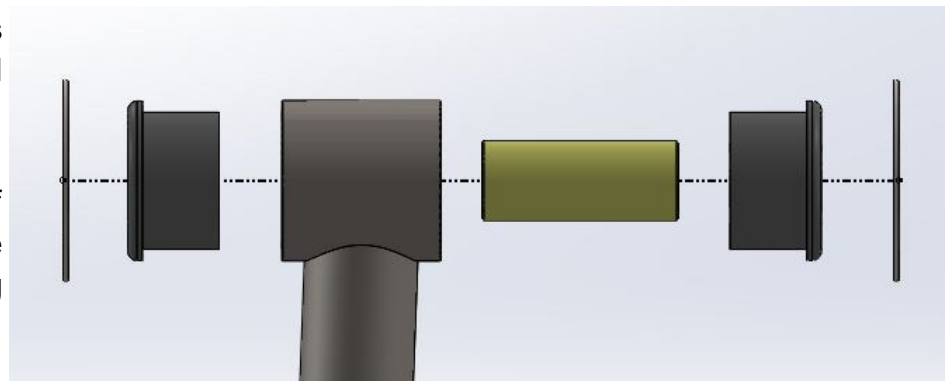

FIGURE:1 CONTROL ARM BUSHING ASSEMBLY
- k. Install the new control arms after assembling the bushings as shown in the image **(FIGURE 1)**. Use grease liberally and coat all contact surfaces. Ensure that the washers are centered on the sleeves for proper functioning.